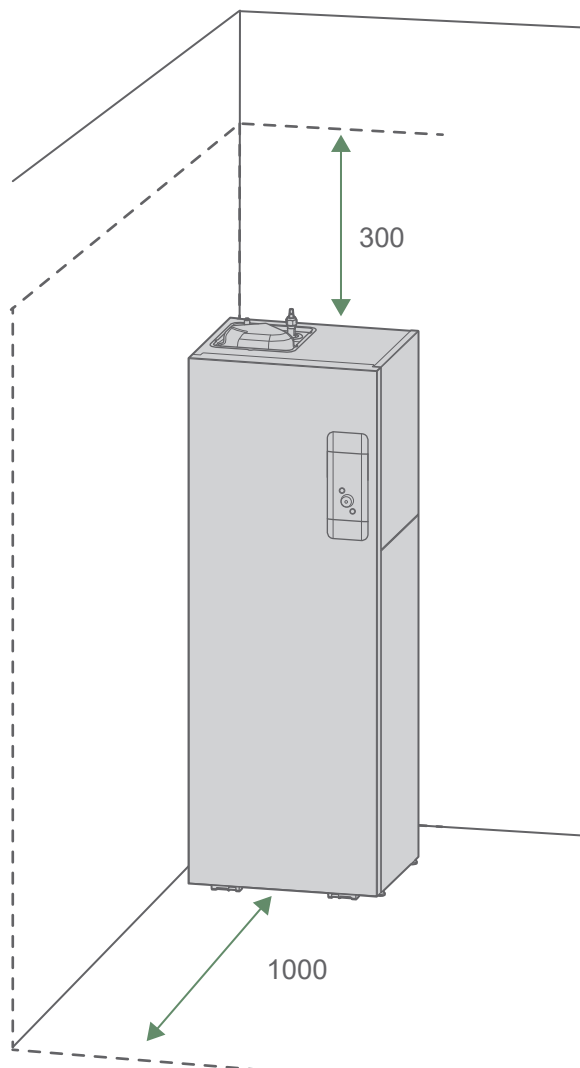

fig. 17 - Minimum installation clearance requirements around the hydraulic unit for maintenance
- To make maintenance easier and allow access to the various components, it is recommended to allow for enough space all around the hydraulic unit (fig. 17).